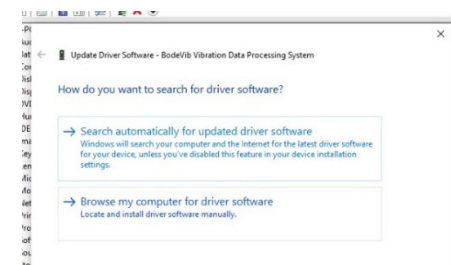

Fig 5. Selecting **Browse my computer...**
8. In the next dialog box that appears, click on **Browse my computer for driver software** as shown in Fig 5.